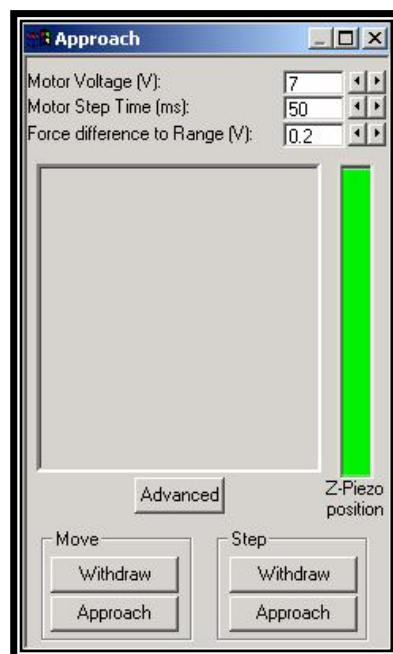

Fig.2.37
- Select the *Approach Menu* by pressing . You will see the window shown in Fig.2.37: